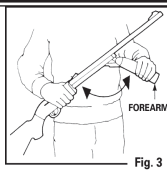

Fig. 3
- Place your hands in the same positions shown in Fig. 3 in order to avoid being pinched, should you lose hold of the forearm. Open the forearm all the way until it stops. Be sure to hold the forearm firmly as you open it. It could spring back into the closed position, possibly causing injury. Do not twist the forearm while pumping. Use straight strokes to prevent breakage.